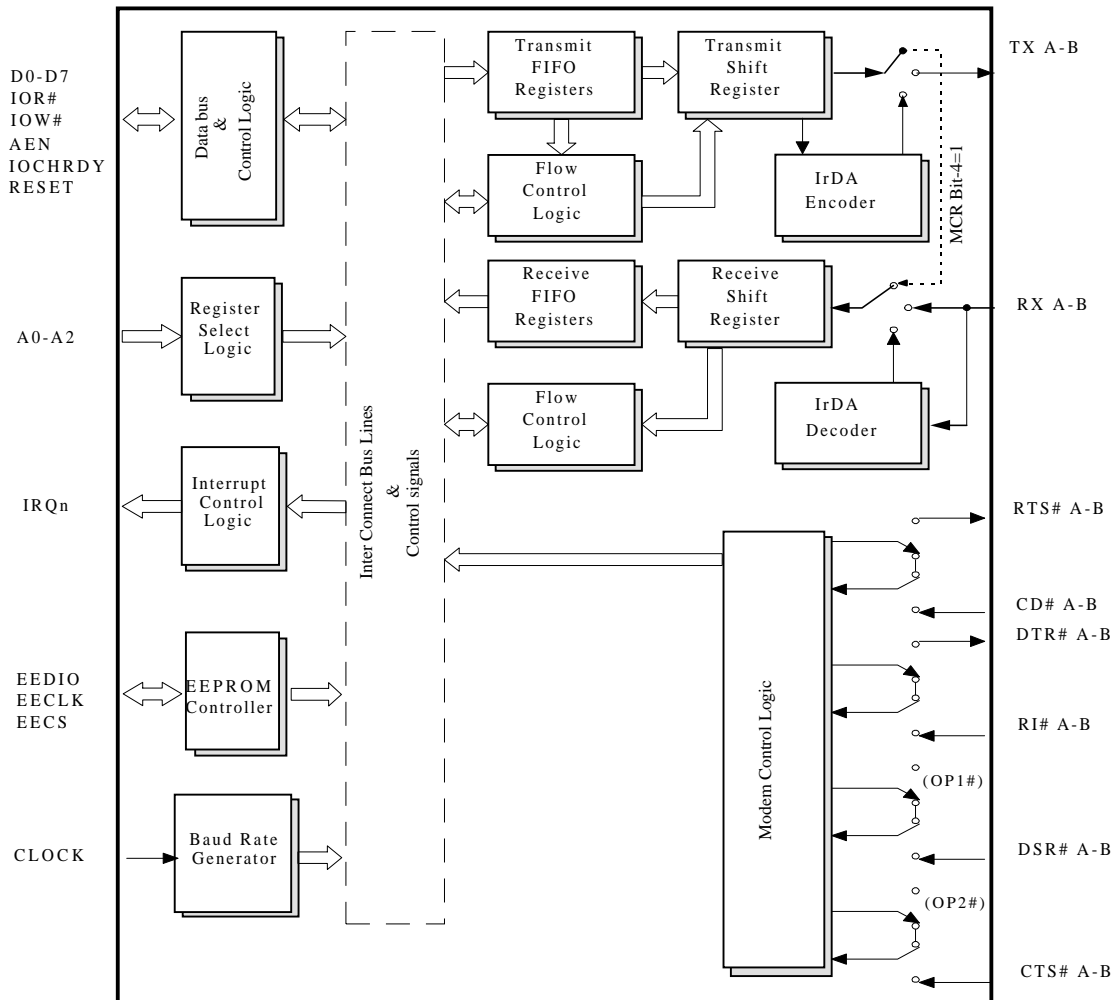

Figure 7, Internal Loop-Back Mode Diagram
DSR# inputs respectively. The transmitter output (TX) and the receiver input (RX) are disconnected from their associated interface pins, and instead are connected together internally (See Figure 7). The CTS#, DSR#, CD#, and RI# are disconnected from their normal modem control inputs pins, and instead are connected internally to DTR#, RTS#, OP1# and OP2#. Loopback test data enters transmit holding register via the user data bus interface, D0-D7. The transmitter serializes the data and passes the serial data to the receive UART via the internal loopback connection. The receive UART converts the serial data back into parallel data that is then made available at the user data interface, D0-D7. The user optionally compares the received data to the initial transmitted data for verifying error free operation of the UART TX/RX circuits. In this mode, the receiver, transmitter and modem control interrupts are fully operational. However, the interrupts can only be read using lower four bits of the Modem Control Register (MCR bits 0-3) instead of the four Modem Status Register bits 4-7. The interrupts are still controlled by the IER. Please note that OP1# and OP2# pins are not brought out and not available.